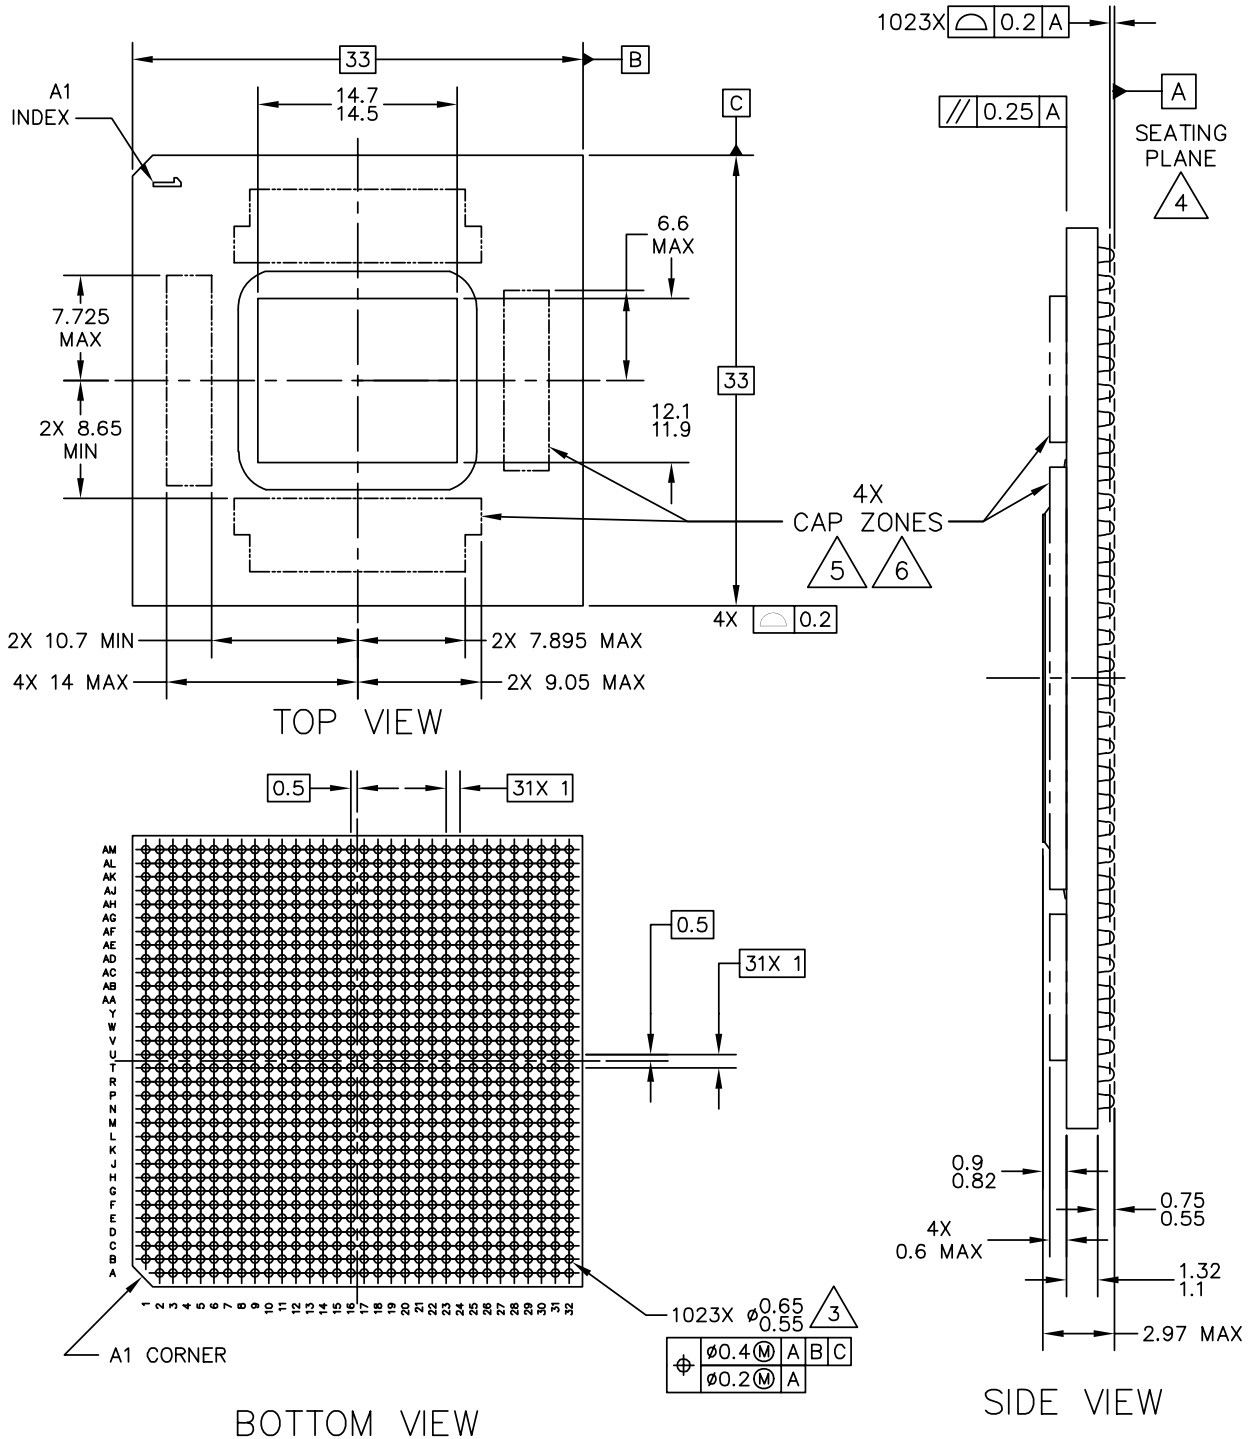
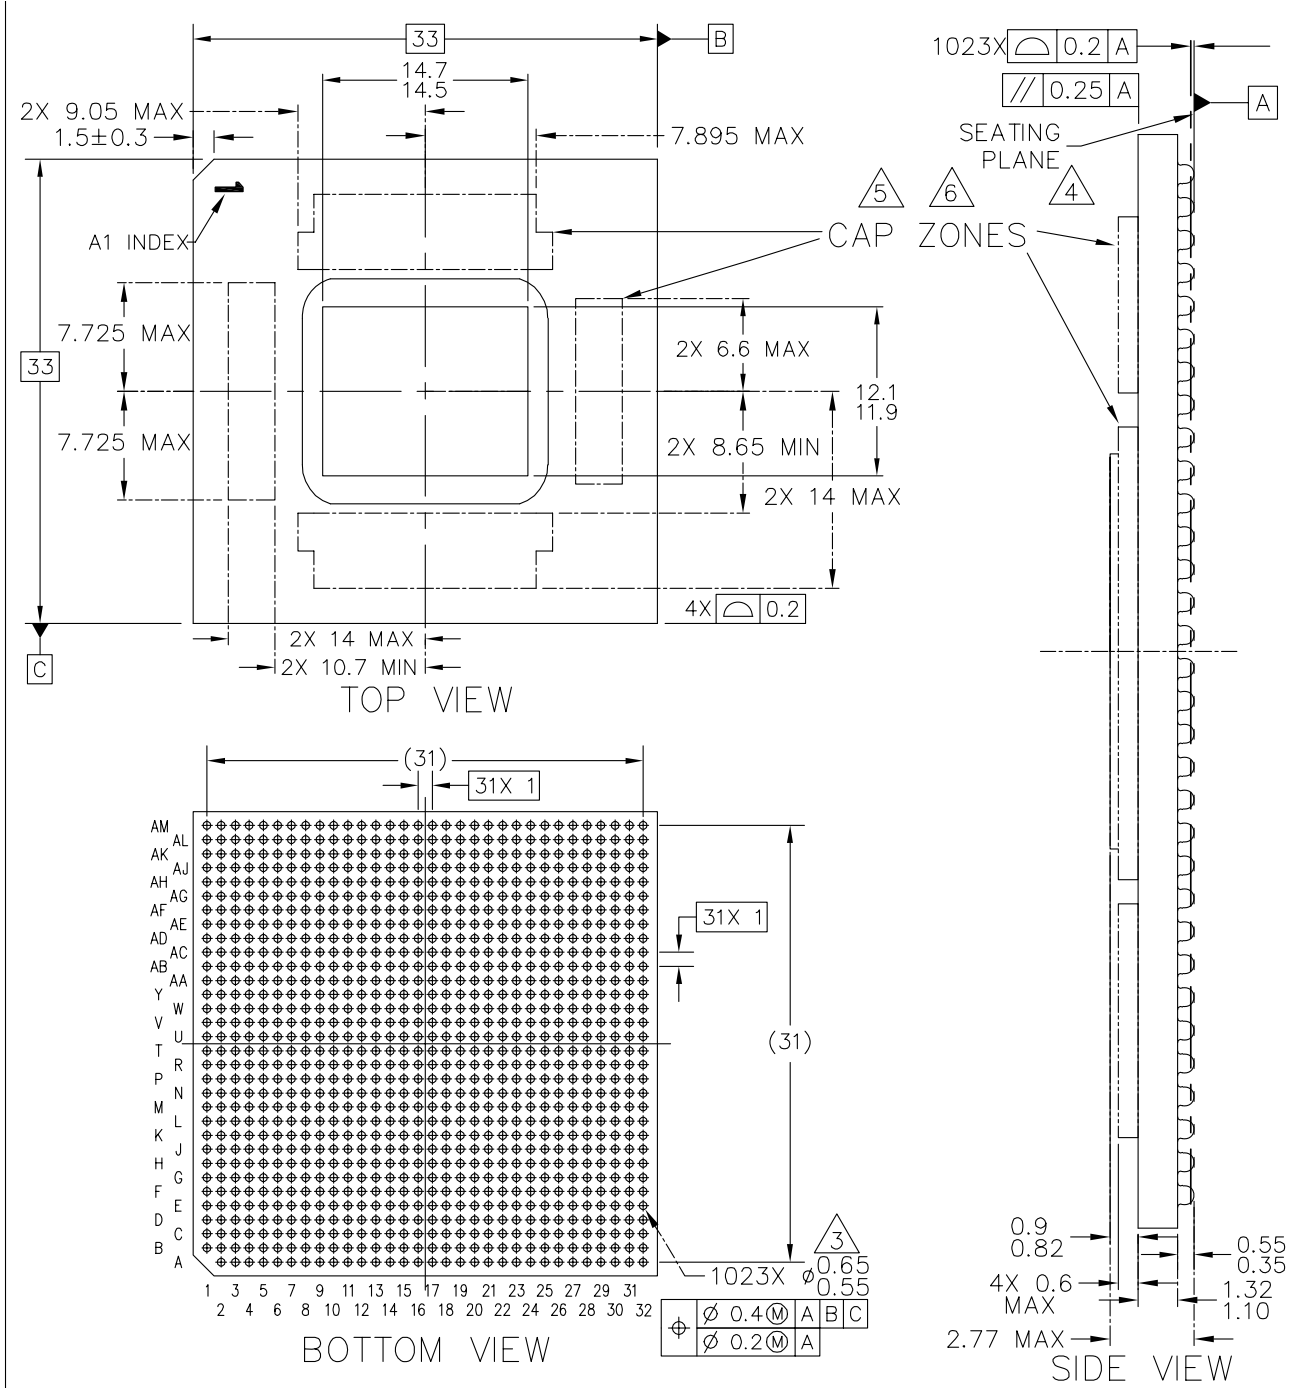

Figure 57. MPC8641D High-Head FC-CBGA Dimensions
Figure 58. MPC8641D Lead-Free FC-CBGA Dimensions
The mechanical dimensions and bottom surface nomenclature of the MPC8641D (dual core) and MPC8641 (single core) high-lead FC-CBGA (package option: HCTE HX) and lead-free FC-CBGA (package option: HCTE VU) are shown respectfully in Figure 57 and Figure 58.
**NOTES for Figure 57**
## NOTES for Figure 58